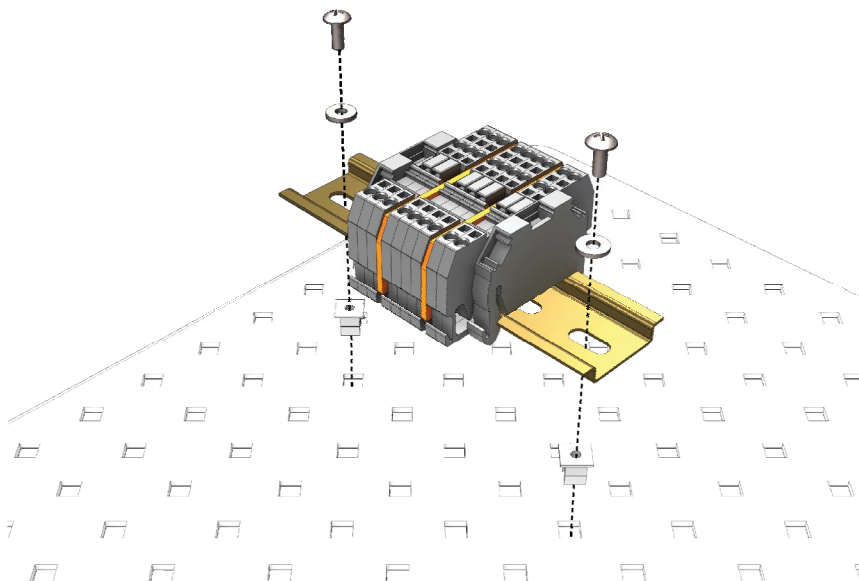

FIGURE 5. DIN-Rail Bracket Mounted onto an Enclosure Backplate
3. Mount the DIN Rail bracket onto the enclosure backplate using two 505 screws and two 6044 grommets (see Figure 5).